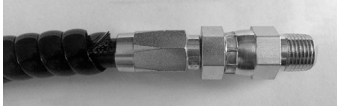

FIG. 67
7. Thread the stud of the nipple clockwise into the socket installed in the hose until the nipple nearly bottoms out against the socket shoulder (FIG. 67).